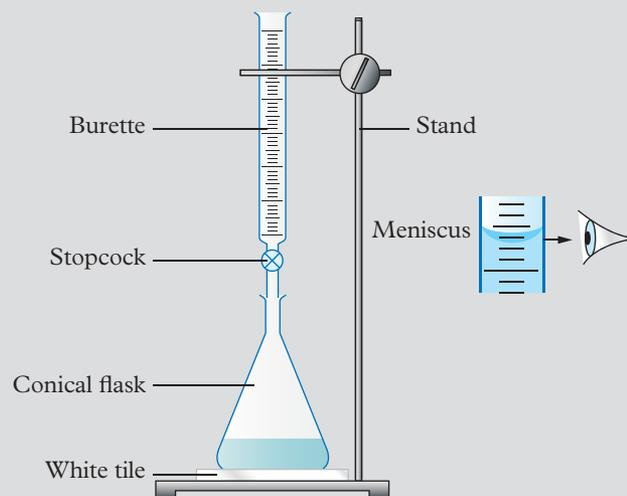

FIGURE 1 The apparatus for the titration
- 7 Set up the burette and clamp (see Figure 1).